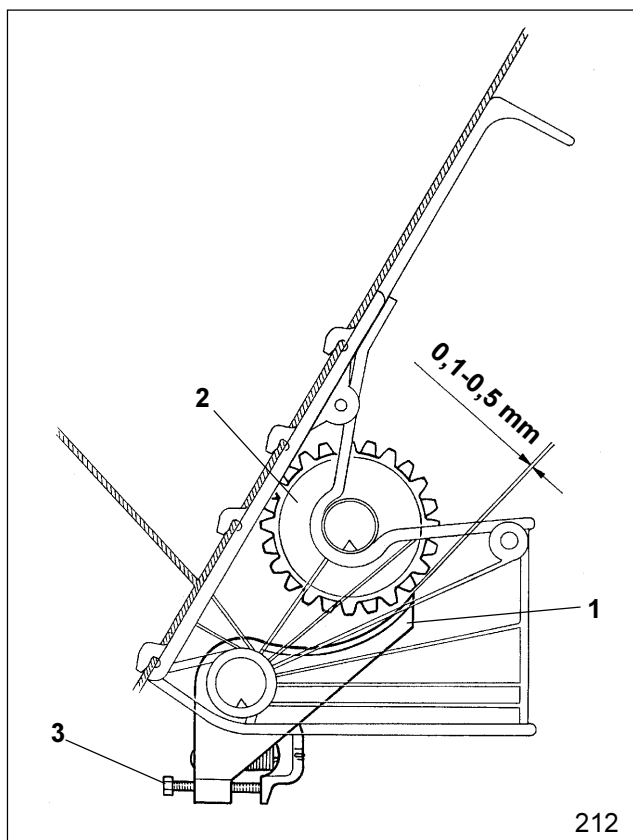

Fig. 26.3
3. Check bottom flaps (Fig. 26.3/1) for easy operation.
4. Check whether the prescribed spacing of 0.1 mm to 0.5 mm (see Fig. 26.3) between the bottom flap (Fig. 26.3/1) and metering wheel (Fig. 26.3/2) of each metering wheel housing is maintained. For this, the metering wheel to be checked should be turned by hand on the seed shaft.
5. In case of deviations set the prescribed spacing at the spring tensioning screw (Fig. 26.3/3).